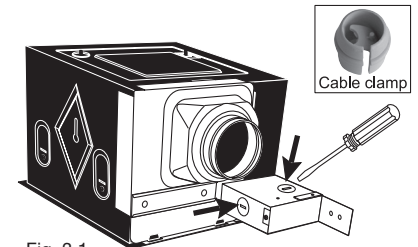

Fig. 3.1
- 1- Remove wiring compartment cover and pry out one of the knock-outs . The cable clamp (included) must be inserted through the knock-out hole. (Fig. 3.1)